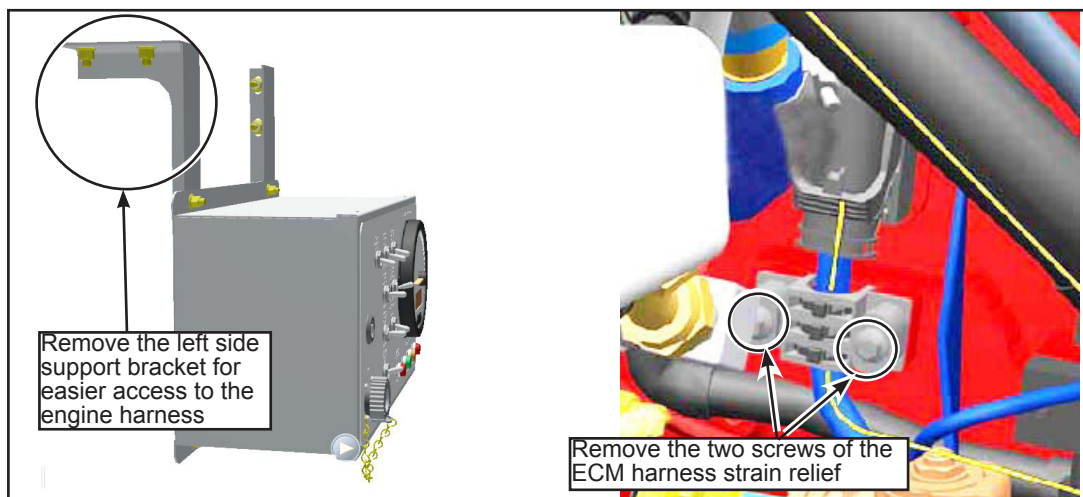

Figure 4 - Remove the Support Bracket and ECM Harness Strain Relief
- 1.4. Remove the left engine control box support bracket for easier access to the engine harness. Remove the two screws that secure the strain relief for the engine harness and disconnect the ECM (see Figure 4).